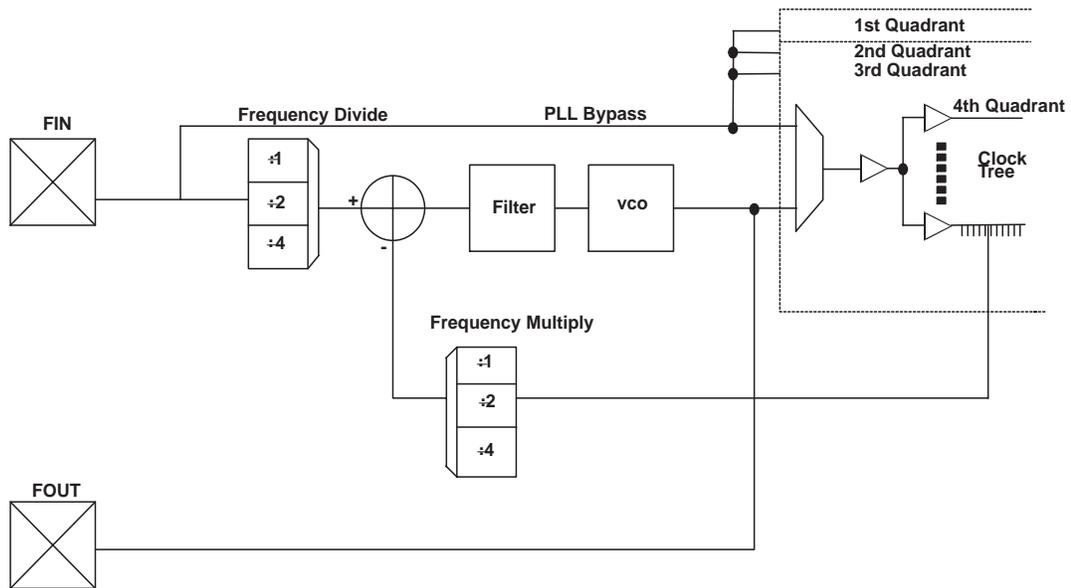

Figure 17: PLL Block
Figure 17 illustrates a typical QuickLogic FPGA PLL.
Within the PLL, a voltage-controlled oscillator (VCO) is added to the circuit. The external F_{in} signal and the local VCO form a control loop. The VCO is multiplied or divided down to the reference frequency, so that a phase detector (the crossed circle in Figure 17) can compare the two signals. If the phases of the external and local signals are not within the tolerance required, the phase detector sends a signal through the charge pump and loop filter (Figure 17). The charge pump generates an error voltage to bring the VCO back into alignment and the loop filter removes any high frequency noise before the error voltage enters the VCO. This new VCO signal enters the clock tree to drive the chip's circuitry.
Most QuickLogic products contain four PLLs, one to be used in each quadrant. The PLL presented in **Figure 17** controls the clock tree in the fourth Quadrant of its FPGA. As previously noted, QuickLogic PLLs compensate for the additional delay created by the clock tree itself by subtracting the clock tree delay through the feedback path.
a. The data provided in **Table 19** are JEDEC and PCI Specifications. QuickLogic devices either meet or exceed these requirements. See preceding **Table 1** through **Table 14** and **Figure 1** through **Figure 17** for data specific to QuickLogic I/Os.